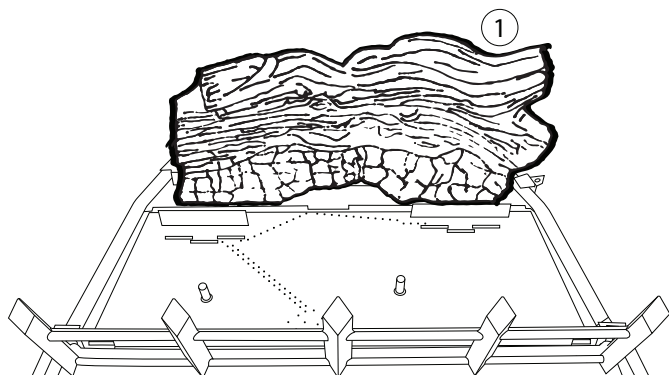

Figure 6.27 - Log #1 Placement
1. Place the rear log (#1) on the rear pins located on the log support bar. See Figure 6.27.